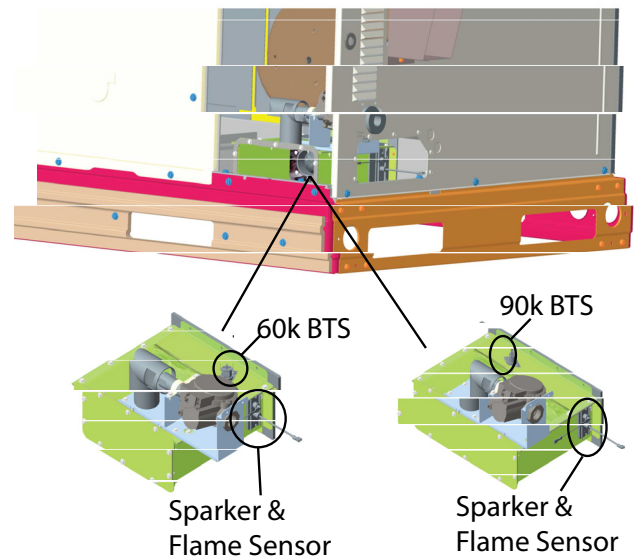

Fig. 20 – Burner Thermal Switch (BTS) (Ultra Low NOx)
- Remove 2 screws holding the flue hood (Fig. 20) and remove the flue hood.
- Re-connect flue hood (Fig. 20) using the 2 screws removed.
NOTE: For Ultra Low NOx The combined flame sensor/sparker is located on the right side of the burner box (See Fig. 20). The flame sensor/sparker is accessible for service by removing the cover in the right side panel. The burner thermal switch (BTS) is located on the top of the burner box. For 60k heat sizes, the BTS switch is accessible through the cover in the right side panel. For 90k heat sizes, the BTS switch is accessible by removing the control access panel.